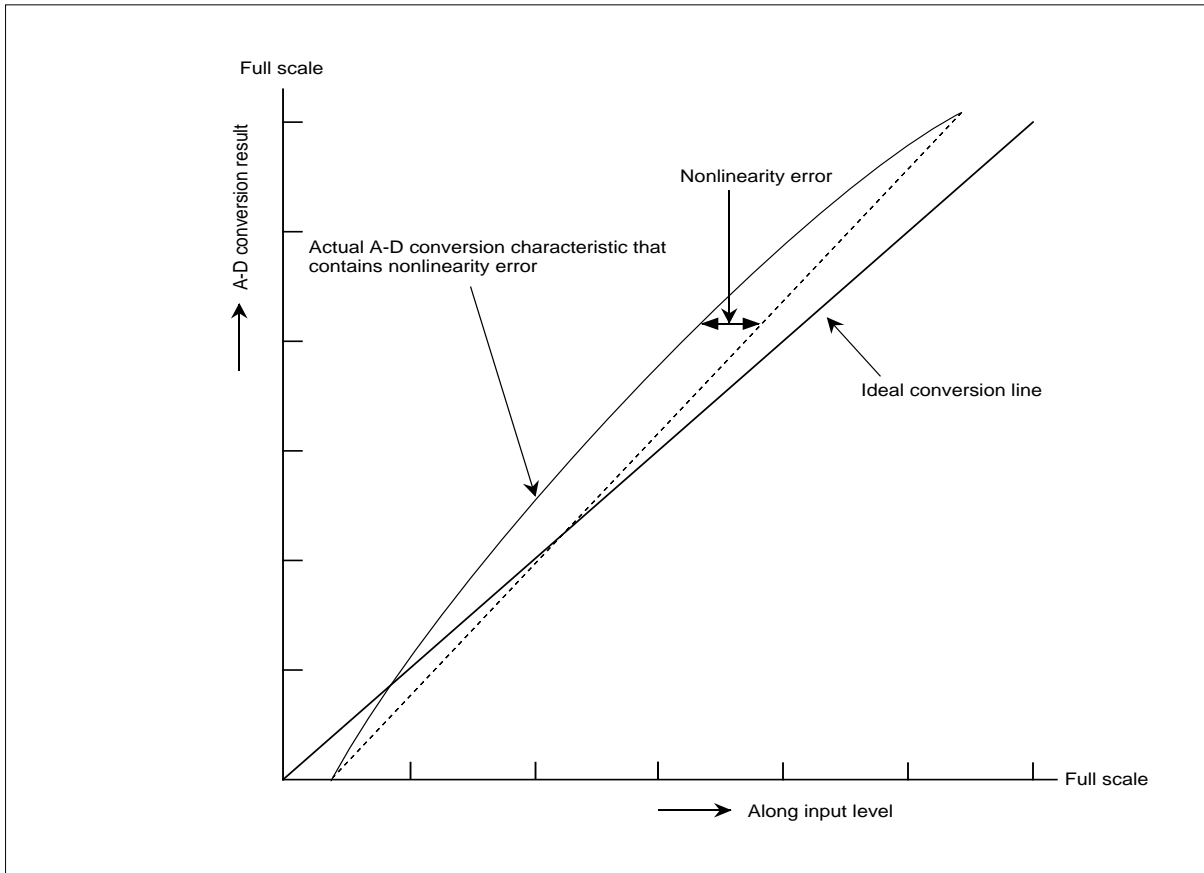

Figure 11.3.5 A-D Converter's Nonlinearity Error
- (1) Resolution ..... Number of digital converted codes output by the A-D converter
- (2) Nonlinearity error .... Deviation from ideal conversion characteristics after the offset and full-scale errors are adjusted to 0. (Figure 11.3.5)